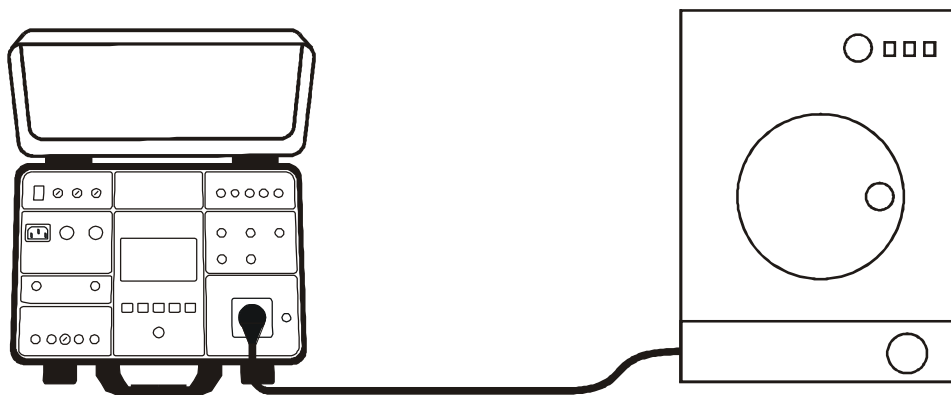

Fig. 74 : Connection of current clamp in ILEAK measurement – SOCKET mode
7. Connect the UUT to schuko socket according to the Fig. 74